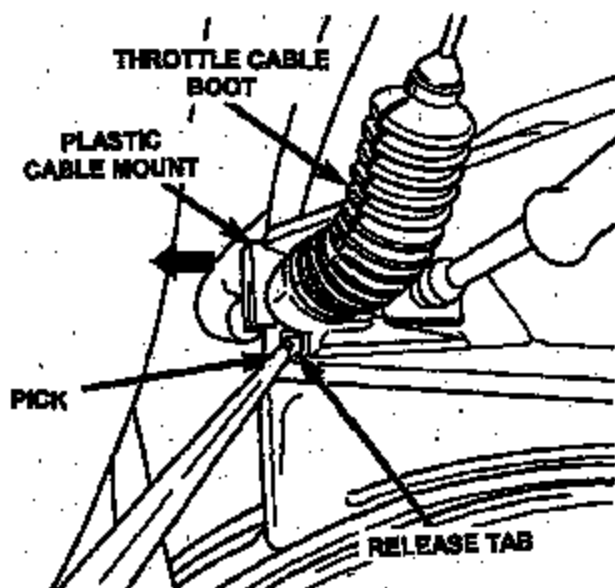

Figure 3
8. Using a pick or small screwdriver, press the release tab and slide the throttle cable off the mounting bracket (Figure 3).